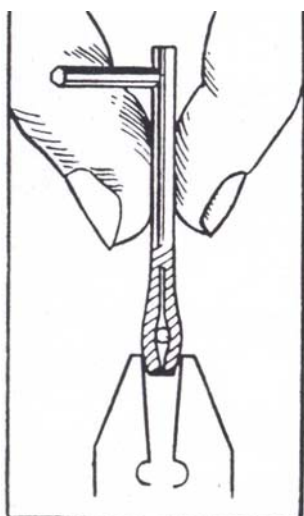

FIG. 44. TIGHTENING THE NEEDLE ROD
**The Needle Rod in the Single-lever Instrument.** If this rod loses its tension, and tends to turn round on its own accord, it should be taken out, and the slotted end of the thread may be opened slightly so as to give the rod more tension. The best way of doing this is to place a small bar about 1/16 inch in diameter in the slots, approximately 1/8 inch from the end, and then close the ends of the rod together with a pair of pliers (see Fig. 44).